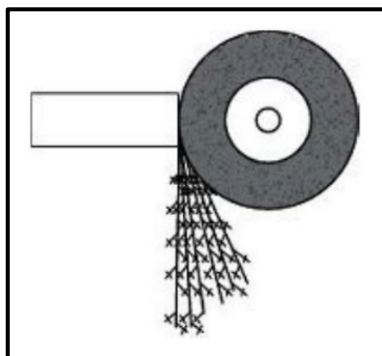

FIGURE 1.4
- 1.4 FIGURE 1.4 below shows a spark test being conducted. Identify the type of material with reference to the spark pattern.